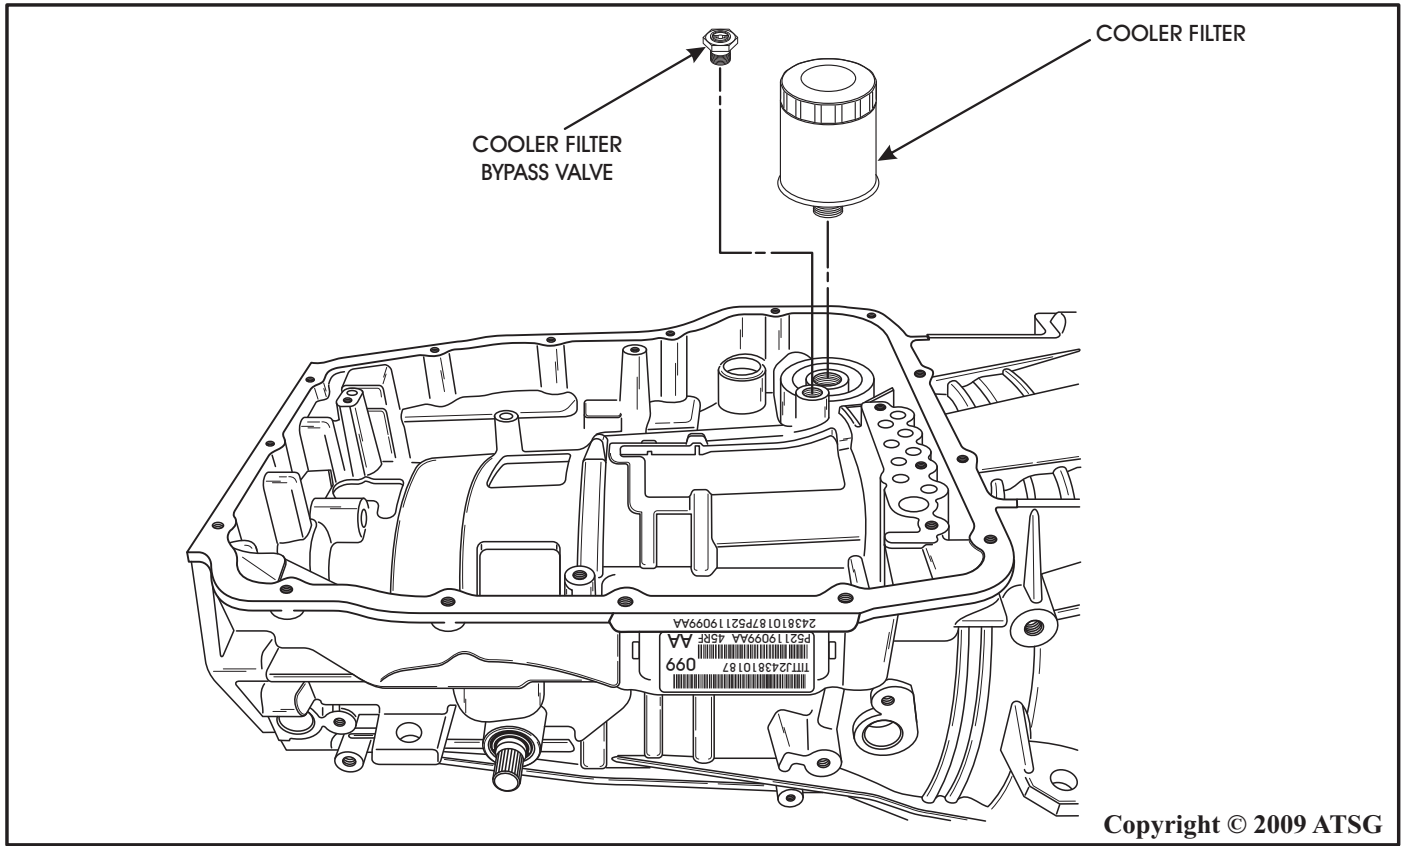

Figure 124
49. Install the cooler filter by-pass valve into the trans case and torque to 11.3 Nm (100 in lb). **Do Not over-torque!** Refer to Figure 124.
50. Install cooler filter in transmission case using a filter wrench (See Figure 124).